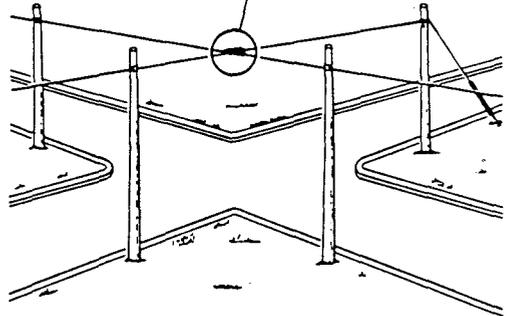

Fig. 10 -- Crossover Arrangement
7.01 Where one suspension strand is to cross over another, use two cable suspension clamps at the crossover as shown in Fig. 10. Place the strand for the branch (or smaller) cable above the strand which will support the main cable.